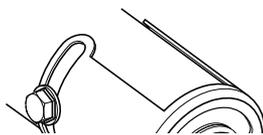

Figure 37 - Remote Selector Switch in ON Position
10. Wait one minute and switch selector switch to the ON position to light burners (see Figure 37). When using in the ON position (without remote) burners will light on high. There is no adjustment to the flames without using remote.